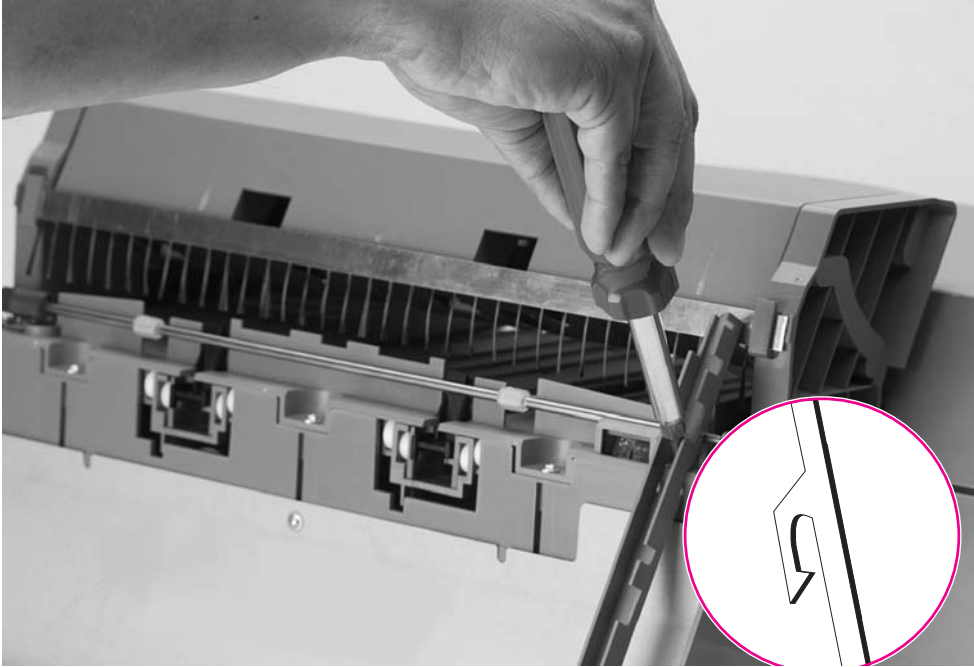

Figure 6-180 Back Plate (1 of 2)
- 2 Remove the Scan Bar by carefully pressing the tab on the scan bar backwards and downwards through the hole of the Stapler Bed (see figure 6-180) with a flat-tip screwdriver, then lift the bar.
- 2** Remove the Back Plate (see figure 6-180).
- 2 Open the Top Cover Assembly, and remove the Back Plate (see figure 6-180 on page 365).
- 2 Remove the Back Plate (see figure 6-180 on page 365).